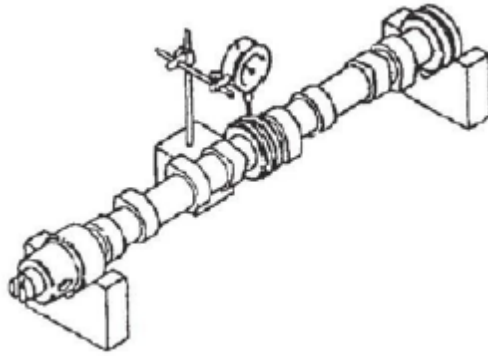

Figure 99.
1. Use V-blocks and a dial indicator to check camshaft bend (Figure 99). Place the indicator on the center bearing journal.